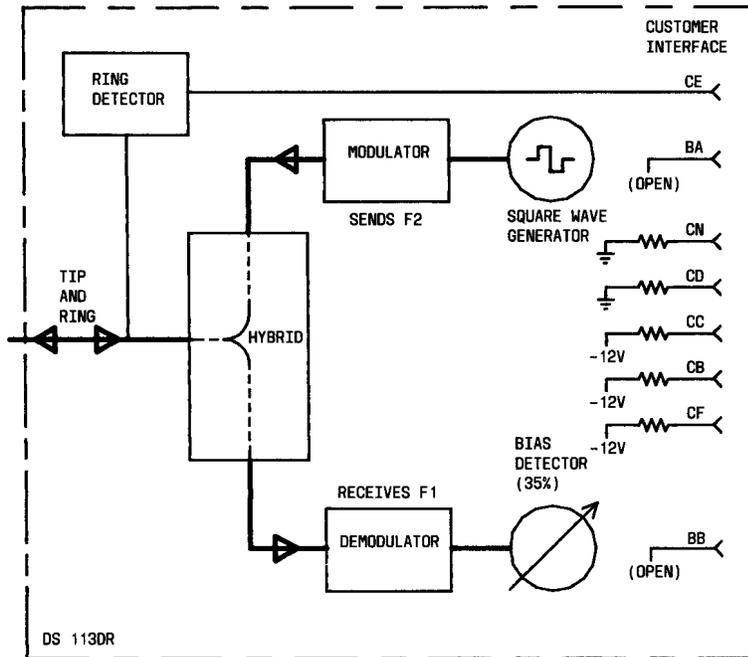

Fig. 3—End-to-End Self-Test Mode
2.10 In the end-to-end self-test mode (Fig. 3), a call is set up to another DS 100-type equipped with a self-test button. The ST buttons are operated at both ends, and the data mode is entered in the normal way. The test can be performed with or without a terminal connected to the data set. The following lamp pattern should occur: